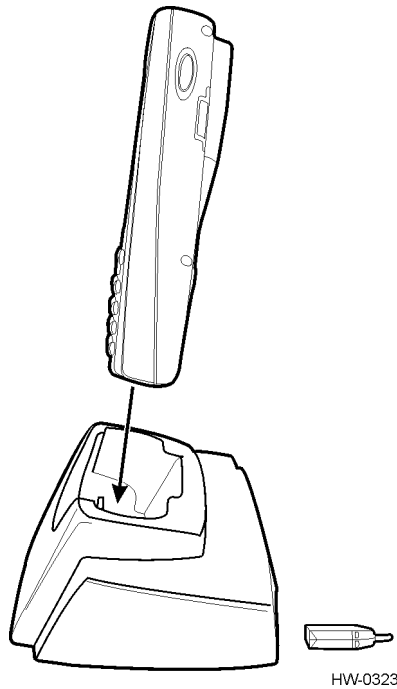

Figure 6 Mobile Computer and Single Dock Station
2. Insert the mobile computer onto the computer docking connector (Figure 6).